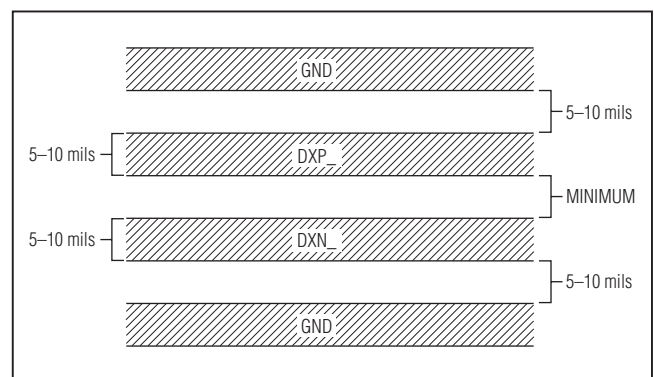

Figure 5. Recommended DXP_–DXN_ PCB Traces. The two outer guard traces are recommended if high-voltage traces are near the DXN_ and DXP_ traces.
- 3) Route the DXP_ and DXN_ traces in parallel and in close proximity to each other. Each parallel pair of traces should go to a remote diode. Route these traces away from any higher voltage traces, such as +12V DC. Leakage currents from PCB contamination must be dealt with carefully since a 20MΩ leakage path from DXP_ to ground causes approximately +1°C error. If high-voltage traces are unavoidable, connect guard traces to GND on either side of the DXP_–DXN_ traces (Figure 5).